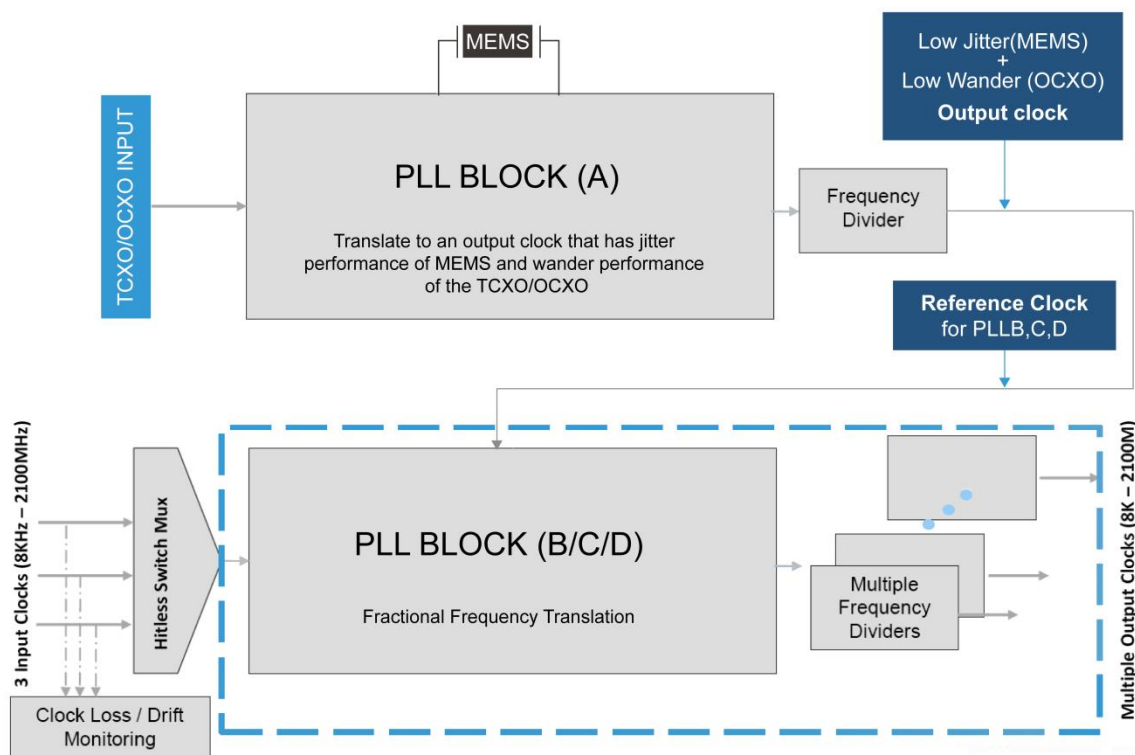

Figure 34. SiT95147 Low Wander Mode implementation diagram
A Low Wander Mode (LWM) is the mode that combines the best jitter from TCXO/OCXO MEMS resonator clocks. This dual loop PLL configuration leverages the lower TCXO/OCXO close-in phase noise (PN) with the lower further out PN of the embedded MEMS resonator. The LWM implementation is shown in Figure 34, in which PLLA generates a low wander reference for the rest of the PLLs.